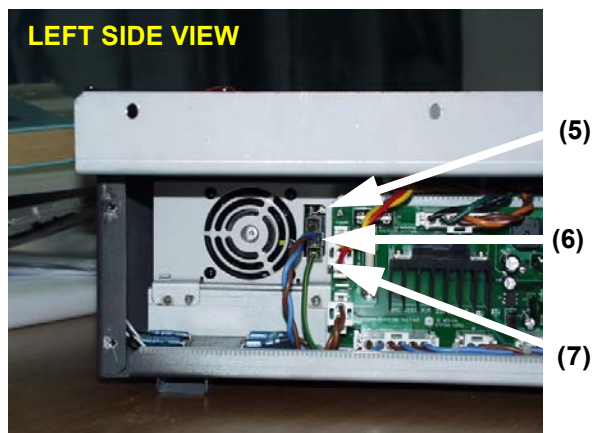

Figure 8-127 Disconnect 3 connectors
- 1.) Unscrew four (4) screws (1-4) to remove Left side cover of AC Power assy.
- 2.) Disconnect three (3) connectors (5-7) from the rear side of the LV Unit. Refer to Figure 8-127 on page 8-77 .